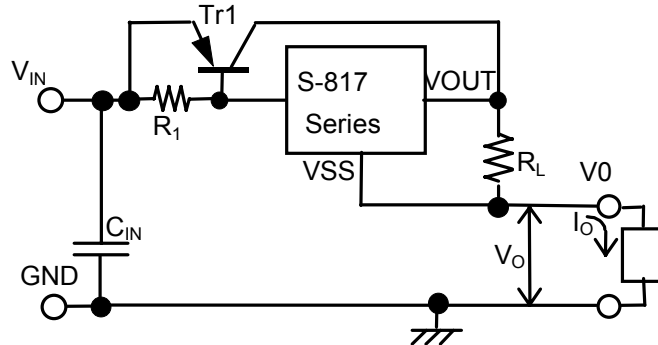

Figure 15
However, circuit (2) of Figure 15 is an example to set constant amperage to the value exceeding the drive ability of the S-817. Circuit (2) incorporates a current boosting circuit. The maximum input voltage of the constant current circuit is the value obtained by adding 10 V to voltage V_O of the device. It is not recommended to attach a capacitor between the S-817 power source V_{IN} and V_{SS} pins or between output V_{OUT} and V_{SS} pins because rush current flows at powering on. An example of input voltage between V_{IN} and V_O in circuit (2) vs. I_O current characteristics